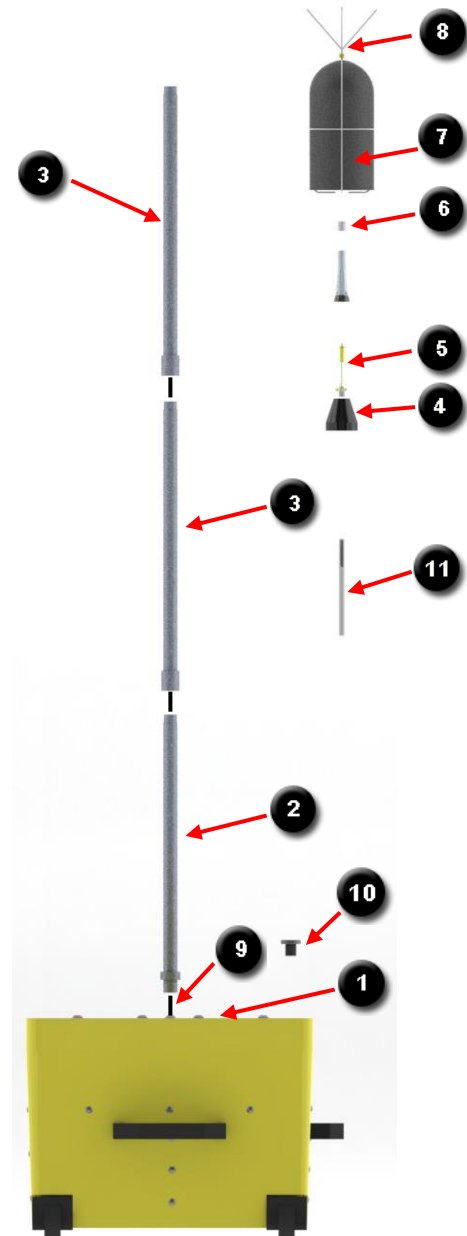

Figure 1: Assembly for outdoor kit
To assemble the outdoor kit refer to Figure 1 and Table 1.
- Assemble the mast pieces by screwing the threaded coupler of the shaft segment with coupler of item 3 (see Figure 1/Table 1), to the threaded base shaft (see 2). You may use multiple extensions (see 3) to increase the height of the microphone.
- From inside the case (see 1), feed the smaller female end of the cable assembly (9) through the hole in the case cover.
- 1 Connect the other end of the cable (see 9 in Figure 1/Table 1) to the meter inside the case.
- 3 Remove and store the case plug with O-ring (see **10** in Figure 1/Table 1).